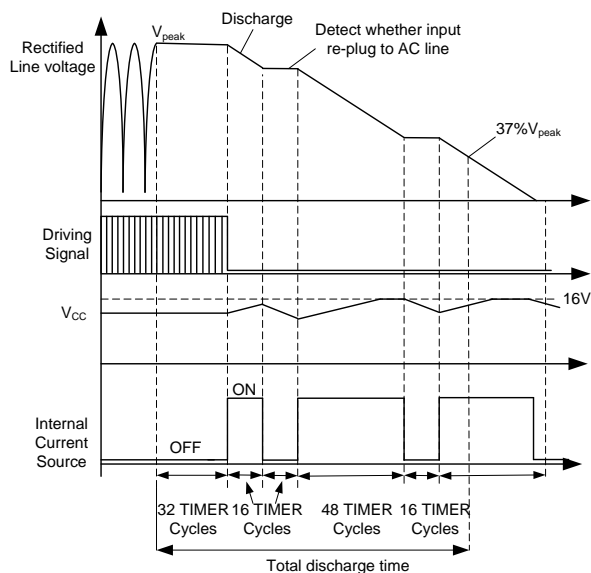

Figure 10: X-Cap Discharger
HV acts as a smart X-cap discharger. When AC voltage is applied, the internal high-voltage current source turns off to block HV current, and the IC monitors the HV voltage. When removing the AC voltage, the IC turns on the high-voltage current source after about 32 TIMER cycles to discharge the X-cap energy. The first discharge duration is 16 cycles. After the first discharge, the IC turns off the current source for 16 cycles to detect whether the input is plugged into the AC line again. If the AC input remains disconnected, the IC turns on the current source for 48 cycles to discharge again, and then turn off for 16 cycles to detect repeatedly until the voltage on the X-cap drops to VCC. Once the reconnected AC input is detected, the high-voltage current source remains off until VCC drops to VCC_{PRO} (5.3V), and then restarts the system by recharging VCC. Figure 10 shows the discharge function waveforms.
Figure 10 shows the X-cap discharger waveforms. The maximum discharge time occurs at a high-line input with no-load condition. The maximum discharge delay time is calculated with Equation (17):